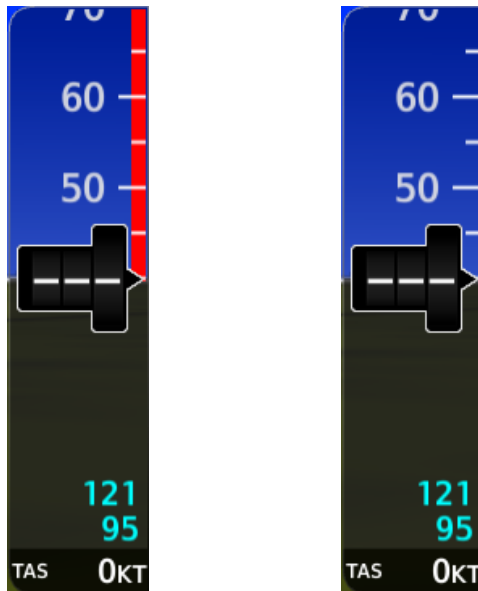

Figure 8-1, Low Speed Awareness Band Symbolization
4. Verify the Low Speed Awareness band (red band) is NOT displayed on the PFD1 and PFD2 airspeed tapes (see Figure 8-1.)
7. Verify the Low Speed Awareness band (red band) appears at the low end of the Air Speed Tape on the PFD1 and PFD2 (see Figure 8-1.)